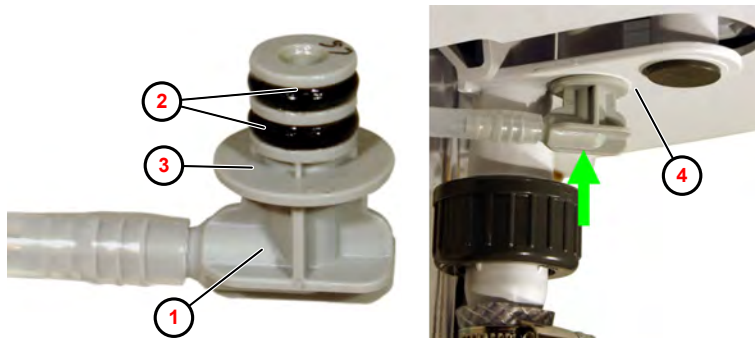

Fig. 14: Removing the connection adapter
1. ➤ Remove O-rings (Fig. 14 , ②) from the connection adapter ① .
2. ➤ Clean the O-ring ③ seat by hand.
5. ➤ Insert the connection adapter as far as it will go until it is flush with the funnel housing ④ .